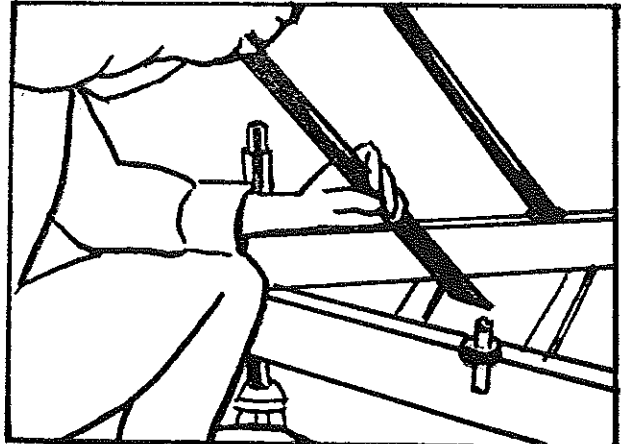

FIGURE 9
16. Kneel down beneath the side of the fully extended bed. Pull down and swivel the two bed support tubes from their travel positions. Lift the bed slightly while placing the free end of the bed support tube over the support peg which is permanently attached to the trailer. See Figure 9.
19. Kneel down beneath the side of the fully extended bed. Pull down and swivel the two bed support tubes from their travel positions. Lift the bed slightly while placing the free end of the bed support tube over the support peg which is permanently attached to the trailer. See Figure 9.